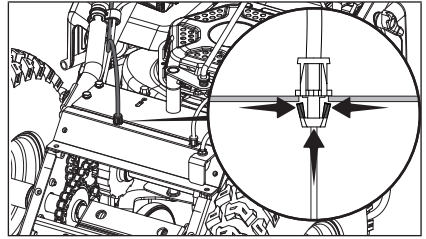

Figure 74
4. On the underside of the smaller cover, squeeze and remove the strain relief from the metal plate. This will dislodge the cable from the smaller base frame cover. (Fig. 74)